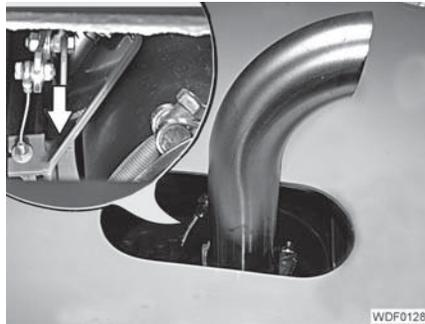

Fig. 280 Locking mechanism of engine hood
- Push down the lever of the locking mechanism (Fig. 280) and open the engine hood.